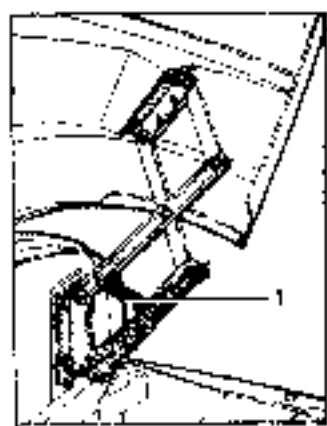

Fig. 5 Hood Lifting Mechanism Lock
4. When servicing the diesel engine lock the hood lifting mechanism applying hook / (Fig. 5).